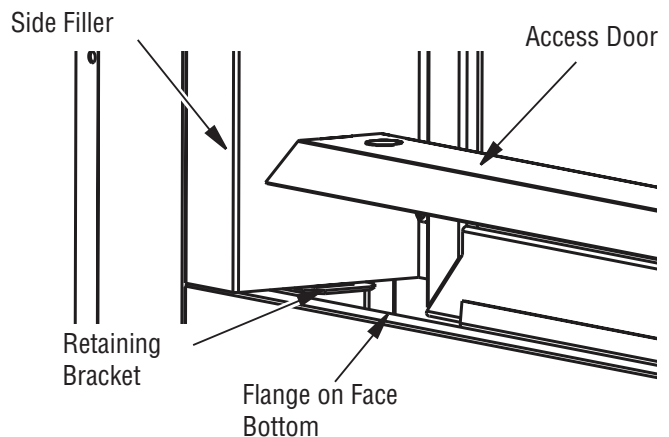

Figure 24 - Access Door for See-Thru Applications
1. Place access door into rectangular opening in front of the glass door with the slanted side facing forward. The slanted surface will slide underneath the flange of the bottom face. Insert tabs on side of access door into slots on retaining brackets (See **Figure 24**).
2. Remove access door (*see Figure 24, Page 14*).